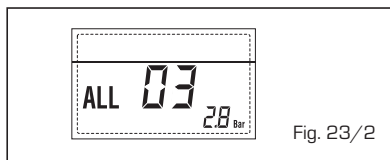

Fig. 23/2
- **ANOMALÍA SONDA SANITARIO "ALL 04" (fig. 23/3)**